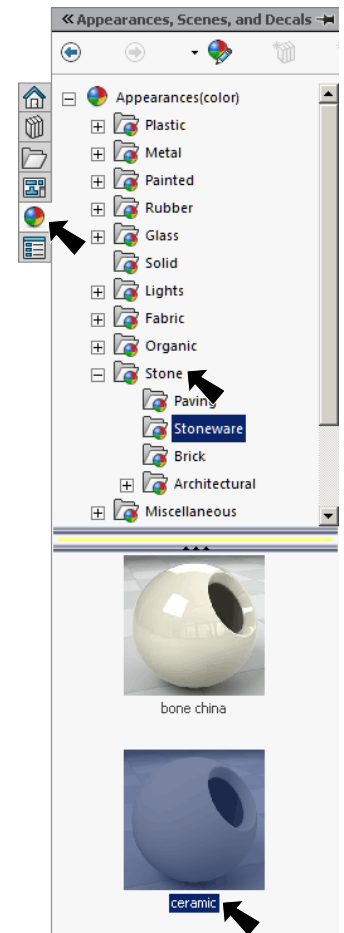

Fig. 6
Step 2. In the Appearances Task pane, expand **Organic**, click **Stoneware** and in the lower pane select **ceramic**, **Fig. 6.**